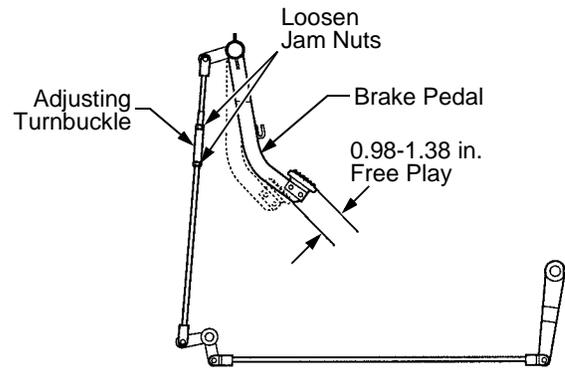

Figure 45
- Loosen the jam nuts from the turnbuckle on both the left and right brake adjustment rods. See Figure 45.